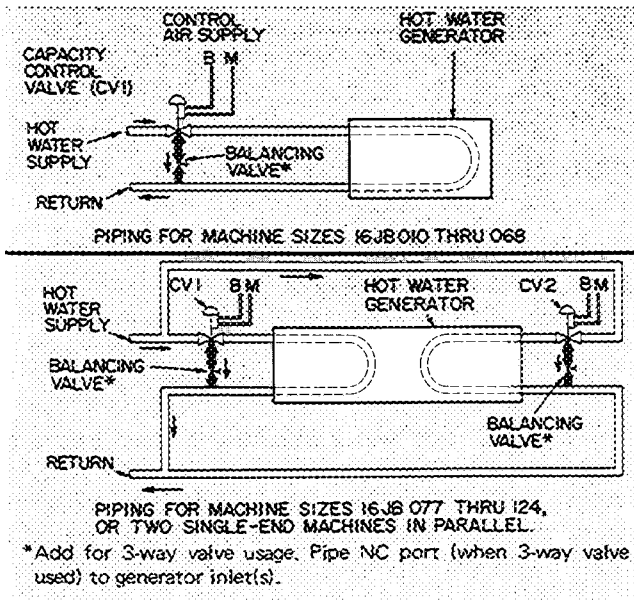

Fig. 6 – Suggested Piping For Hot Water Machines Using Supply Hot Water 300 F or Below
– Fig. 6 gives suggested hot water piping when supply hot water is 300 F or below. The capacity of the machine is controlled by regulating the flow of hot water through the generator. Either a two-way or three-way capacity control valve (CV) can be used. Machine sizes 16JB077-124 require two capacity control valves if partial load efficiency of double generators is to be utilized.